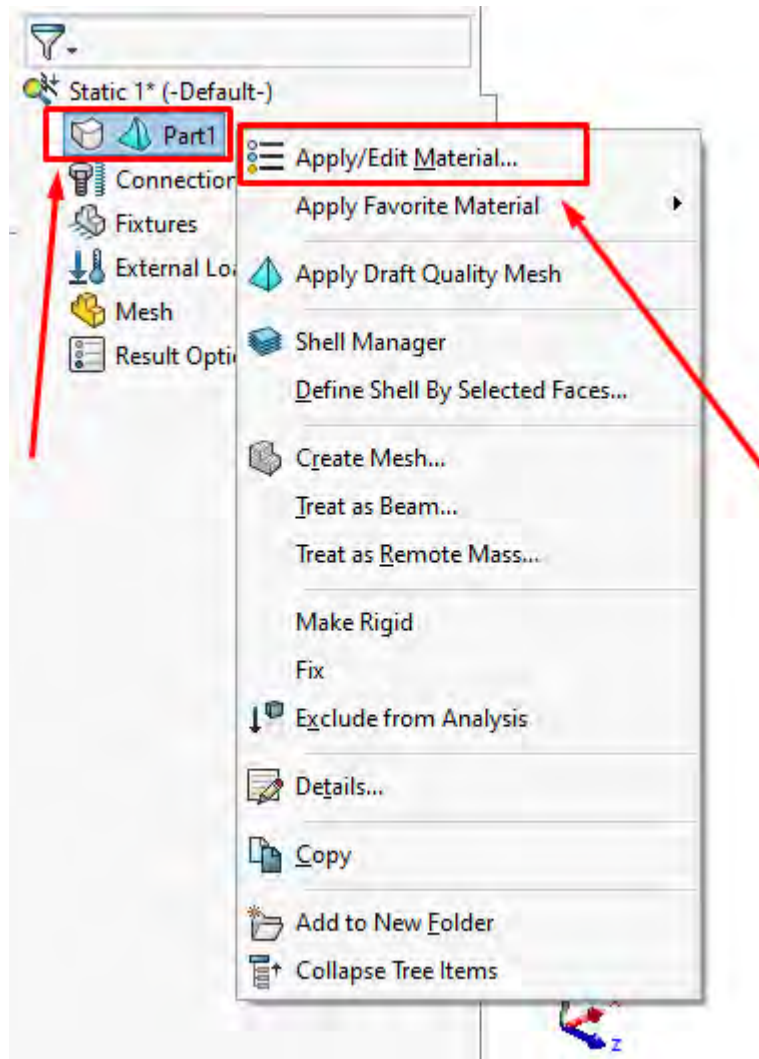

Figure 6 – Applying material to the model
1. In the Simulation study tree, right-click the part icon (usually has the same name as the part file) and select Apply / Edit Material. Material) (Fig. 6).